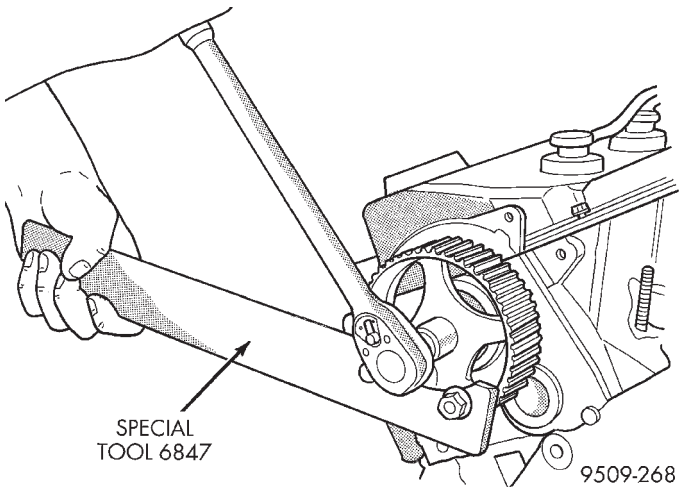

Fig. 68 Camshaft Sprockets—Removal and Installation
- (1) Remove timing belt. Refer to procedure in this section.
- (2) Hold camshaft sprocket with Special Tool 6847. Loosen and remove bolt and washer (Fig. 68).
- (3) Remove camshaft sprocket from camshaft.
- (1) Place camshaft sprocket on camshaft.
- (2) Install bolt and washer to camshaft. Using Special Tool 6847, hold camshaft sprocket and torque bolt to 88 N·m (65 ft. lbs.) (Fig. 68).
- (3) Install timing belt. Refer to procedure in this section.